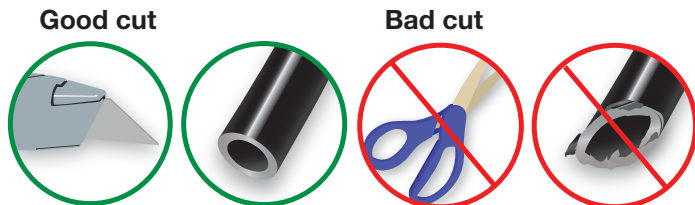

fig. D.2
1. Cut the air line in half. Make clean, square cuts with a razor blade or hose cutter (Fig. D.2). Do not use scissors or wire cutters.